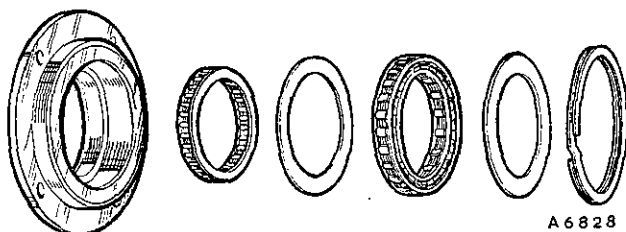

Fig. Fa.58
- (4) Remove the circlip.
- (5) Lift out the spring ring, first gear free-wheel, intermediate spring ring, and thrust bearing (see Fig. Fa.58).